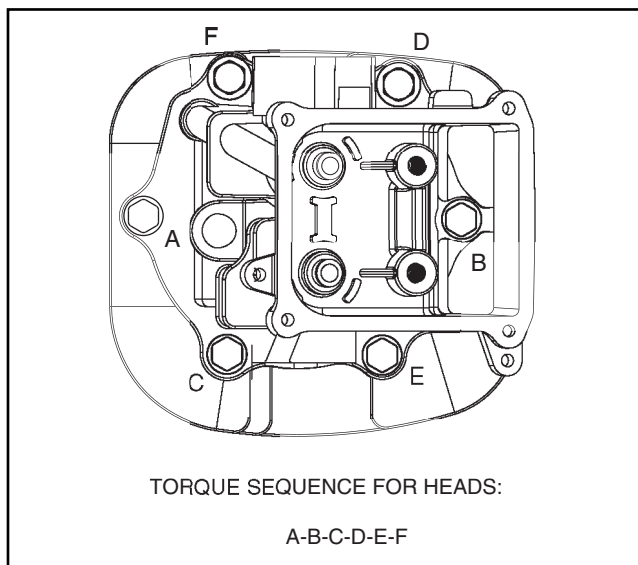

Figure 5-16.
2. Torque head bolts in sequence shown to 29.9 Nm (22 ft. lbs.) (Figure 5-16).